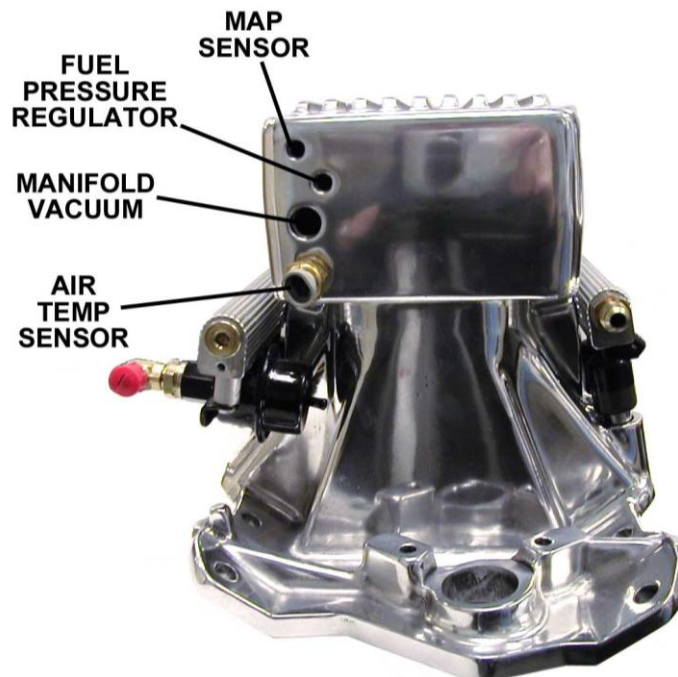

Figure 6
1. Vacuum line needs to be run from the back of the manifold to the MAP sensor and to the fuel pressure regulator. See Figure 6. The MAP sensor should be mounted such that it is above the vacuum connection in the intake so that condensation does not run into the sensor. The map sensor vacuum inlet should be pointed at a downward angle or at worst horizontal as it would be if it were mounted to the firewall.